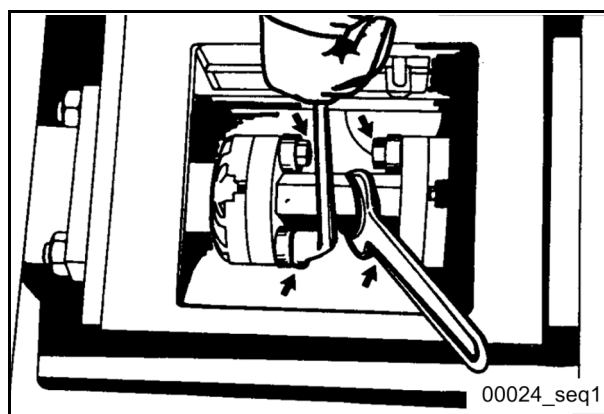

Fig. 186
- Make sure the fastening screws are tight (**Fig. 186**). While doing so, hold the distance piece on the continuous hexagon.